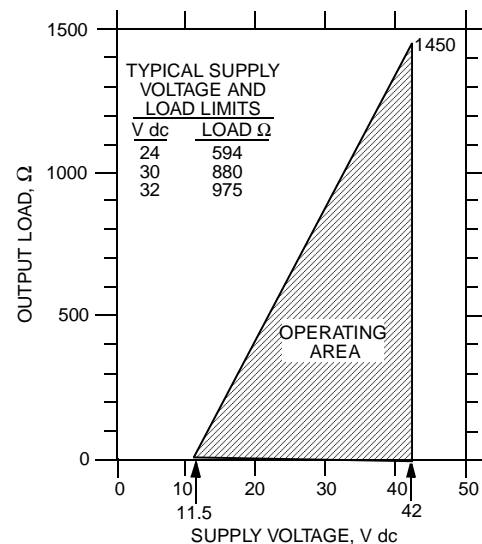

Figure 2. Supply Voltage vs. Output Load
**Supply Voltage Requirements and External Loop Load Limitations (Figure 2)**